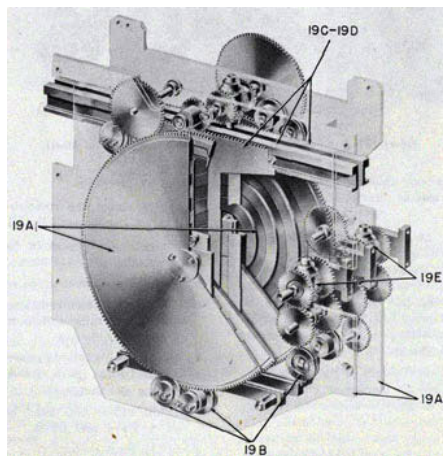

Figure 135-Computer Assembly
19. To assemble the computer, follow the outline below. See figures 135 to 139 and 141.